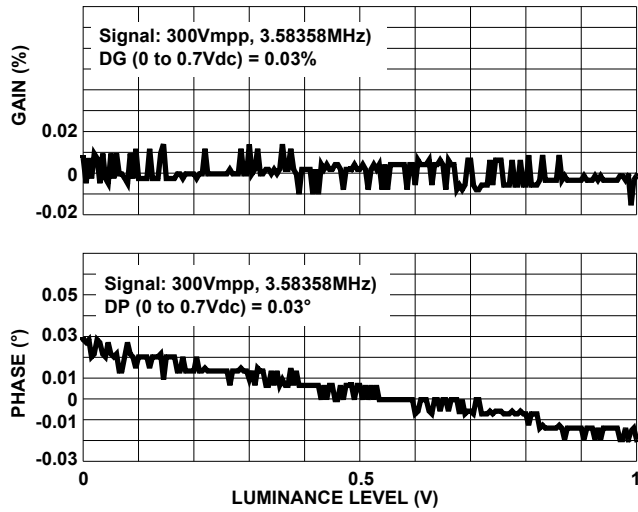
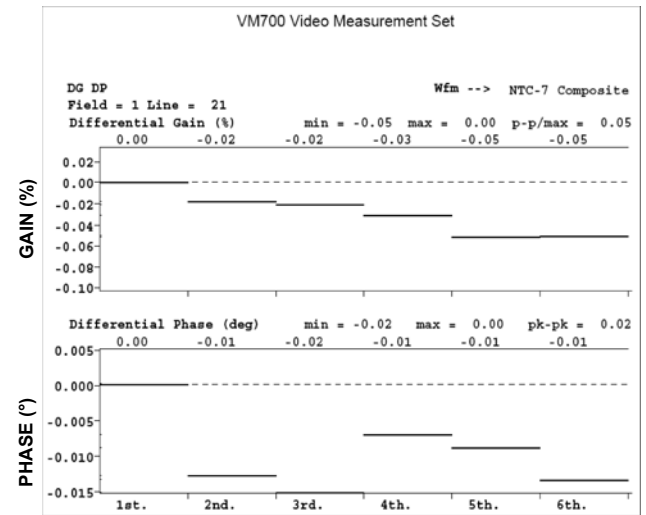

FIGURE 15.
FIGURE 16.
Figure 15 shows the measured gain and phase of a 3.58MHz, 300MV_{p-p} signal at the output of the switch relative to the signal at the input of the switch as you vary the DC offset of the signal from 0V to 1V using a network analyzer. The data from the sweep was used to calculate the differential gain (DG) and differential phase (DP). Over luminance range of 0V to 1V: DG = 0.03% and DP = 0.05°. Over luminance range of 0V to 0.7V: DG = 0.03% and DP = 0.03°. DG and DP plot using an actual NTSC video signal is shown in Figure 16. DG = 0.05% and DP = 0.02°.